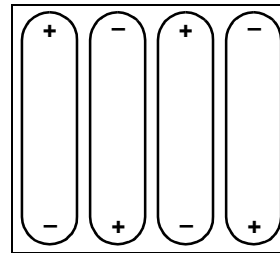

Figure 18 Battery orientation
- 4 Replace the batteries, with polarities oriented as shown in Figure 18.
The charger has detected a fault condition. Turn the tester OFF, and then disconnect the external power adapter. Verify that the batteries installed in your tester are NiMH batteries, and that they are installed in the proper orientation (see Figure 18 on page 98). Always use JDSU recommended batteries in your tester.